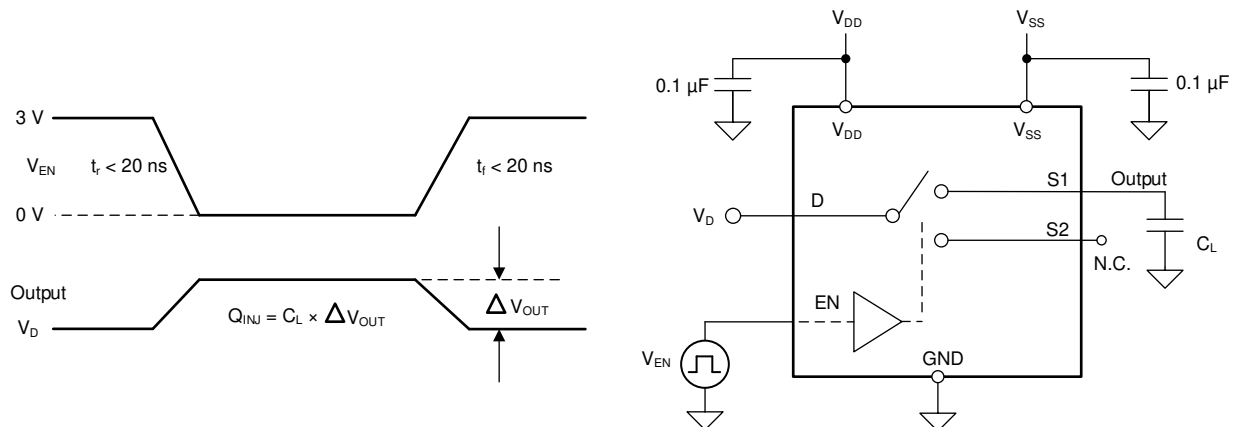

Figure 7-9. Charge-Injection Measurement Setup
The TMUX7219M has a transmission-gate topology. Any mismatch in capacitance between the NMOS and PMOS transistors results in a charge injected into the drain or source during the falling or rising edge of the gate signal. The amount of charge injected into the source or drain of the device is known as charge injection, and is denoted by the symbol Q_C . Figure 7-9 shows the setup used to measure charge injection from source (Sx) to drain (D).